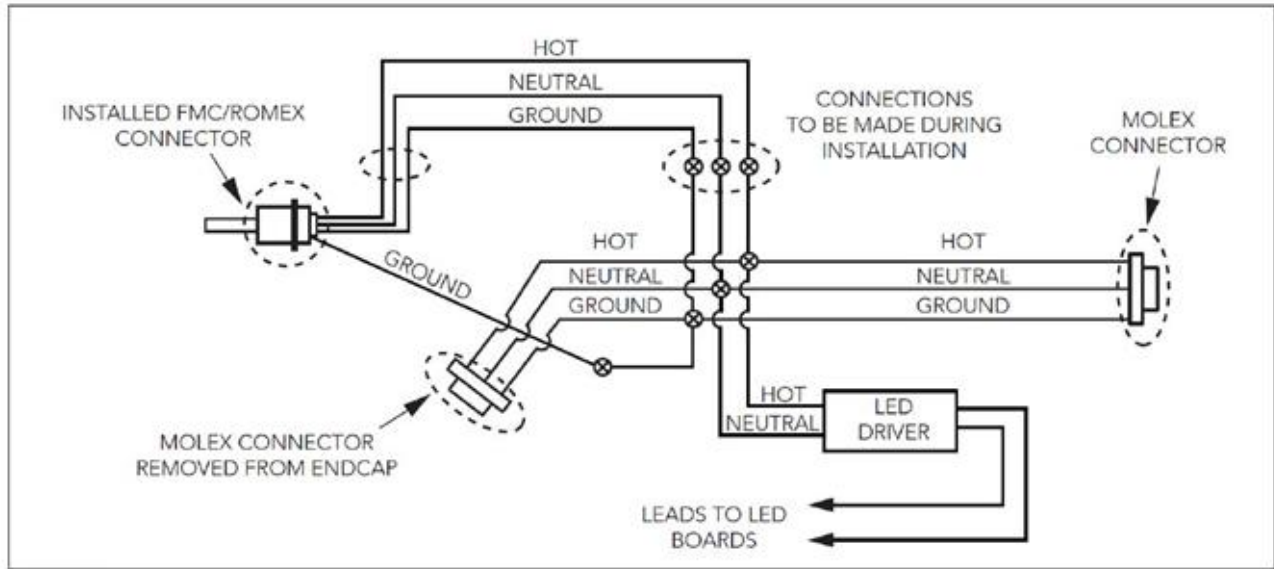

Figure 5
7. Connect the power supply wiring as shown in Figure 5. Connect the AC feed to the three pigtailed provided between the two Molex connectors in the diagram. Be sure wirenuts are secure and no strands of wire are left exposed.